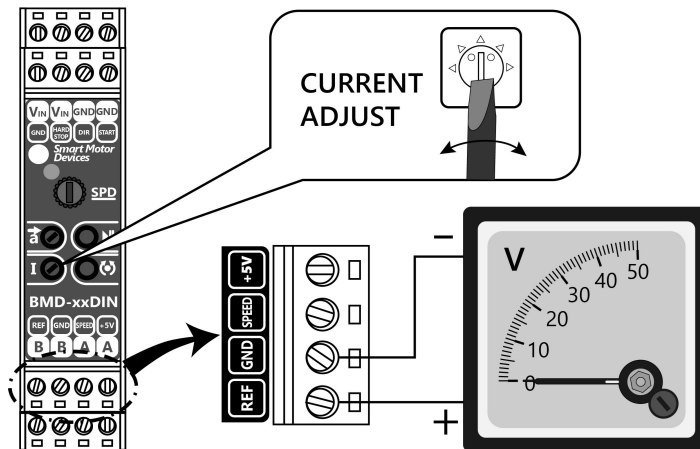

Fig. 3. Connection of a voltmeter for setting of a motor maximum current limit.
- 8) Using the potentiometer «CURRENT ADJUST», set the maximum motor current. Adjust the «CURRENT ADJUST» potentiometer and control the set current limit by a voltmeter, connected to «GND» and «V_{ref}» terminals (fig.3). The motor current limitation can be calculated as: